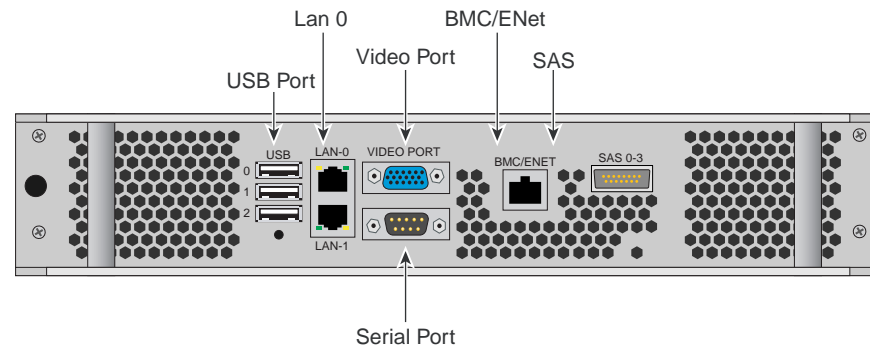

Figure 3-6 BaseIO Riser Enabled Blade Front Panel Components
- **BaseIO enabled compute blade.** I/O riser enabled blade that supports all base system I/O functions including two ethernet connectors, one SAS port, one BMC ethernet port and three USB ports. Figure 3-6 on page 44 shows the front components of the I/O riser enables blade.